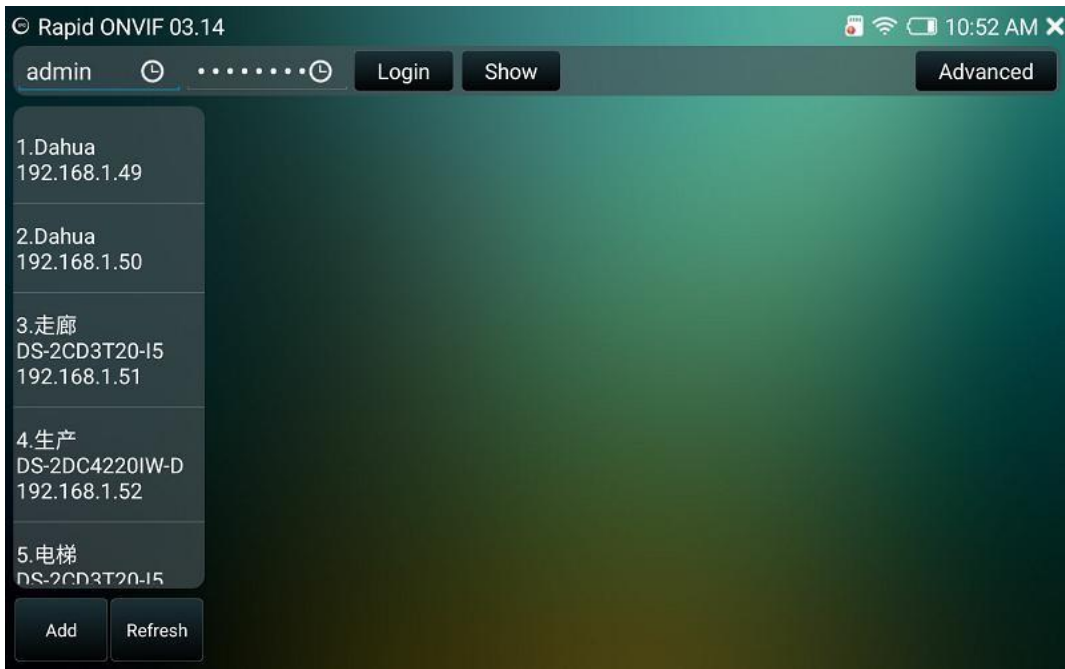

Figure 13
1) Input the username and password in the second column, touch the login button, by default, username and password are both 'admin', if it prompts error username or password, touch logout to edit the value. By default, it logs in automatically, you can disable it in advanced setting menu. Click the small  icon on the right of username and password to view or delete the history username and password records, as shown in Figure 13.